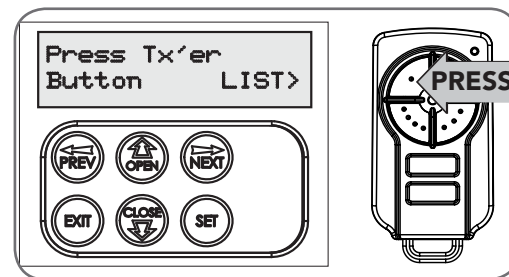

Fig H.2
- Press the transmitter once (**Fig. H.2**).